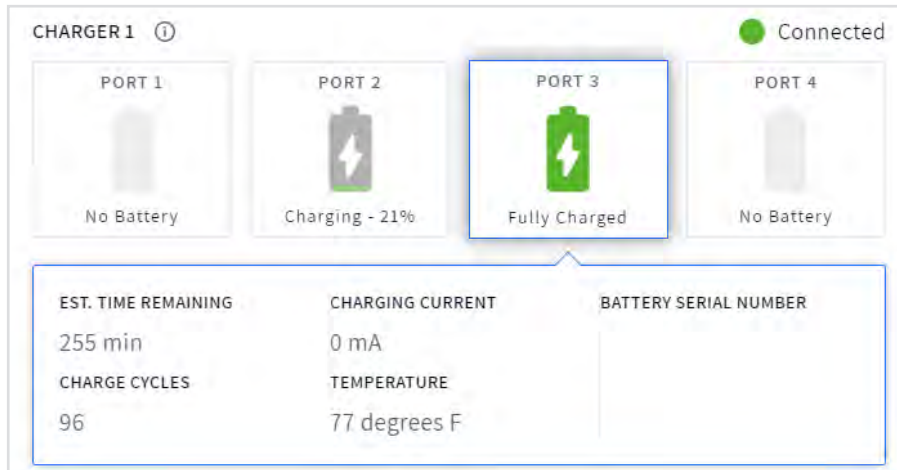

Fig. 1.10
- Tap on a port tile for more battery details. For example, in Fig. 1.10, the third tile (Port 3) was tapped, prompting additional details to be displayed about the battery docked in this port.